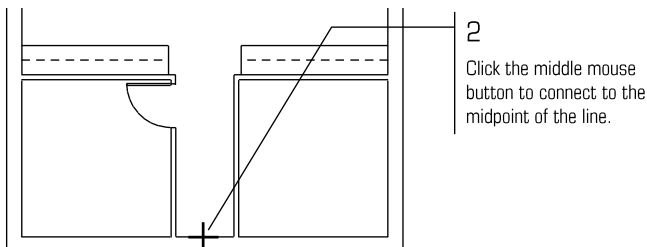

Figure 3.37: Defining the center of the front door
2. Move the mouse to the location shown in Figure 3.37. Click the middle mouse button to snap to the midpoint of the inside front wall. You are prompted to *Select strike side of door*.